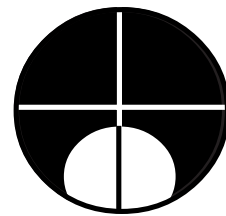

FIGURE 2
**Figure 2** shows an aiming screen in which the bladder overlaps one side of the scan cone. The instrument recognizes this condition and displays the > symbol. Greater accuracy will be achieved if the examination is repeated with the scanhead repositioned and reaimed.